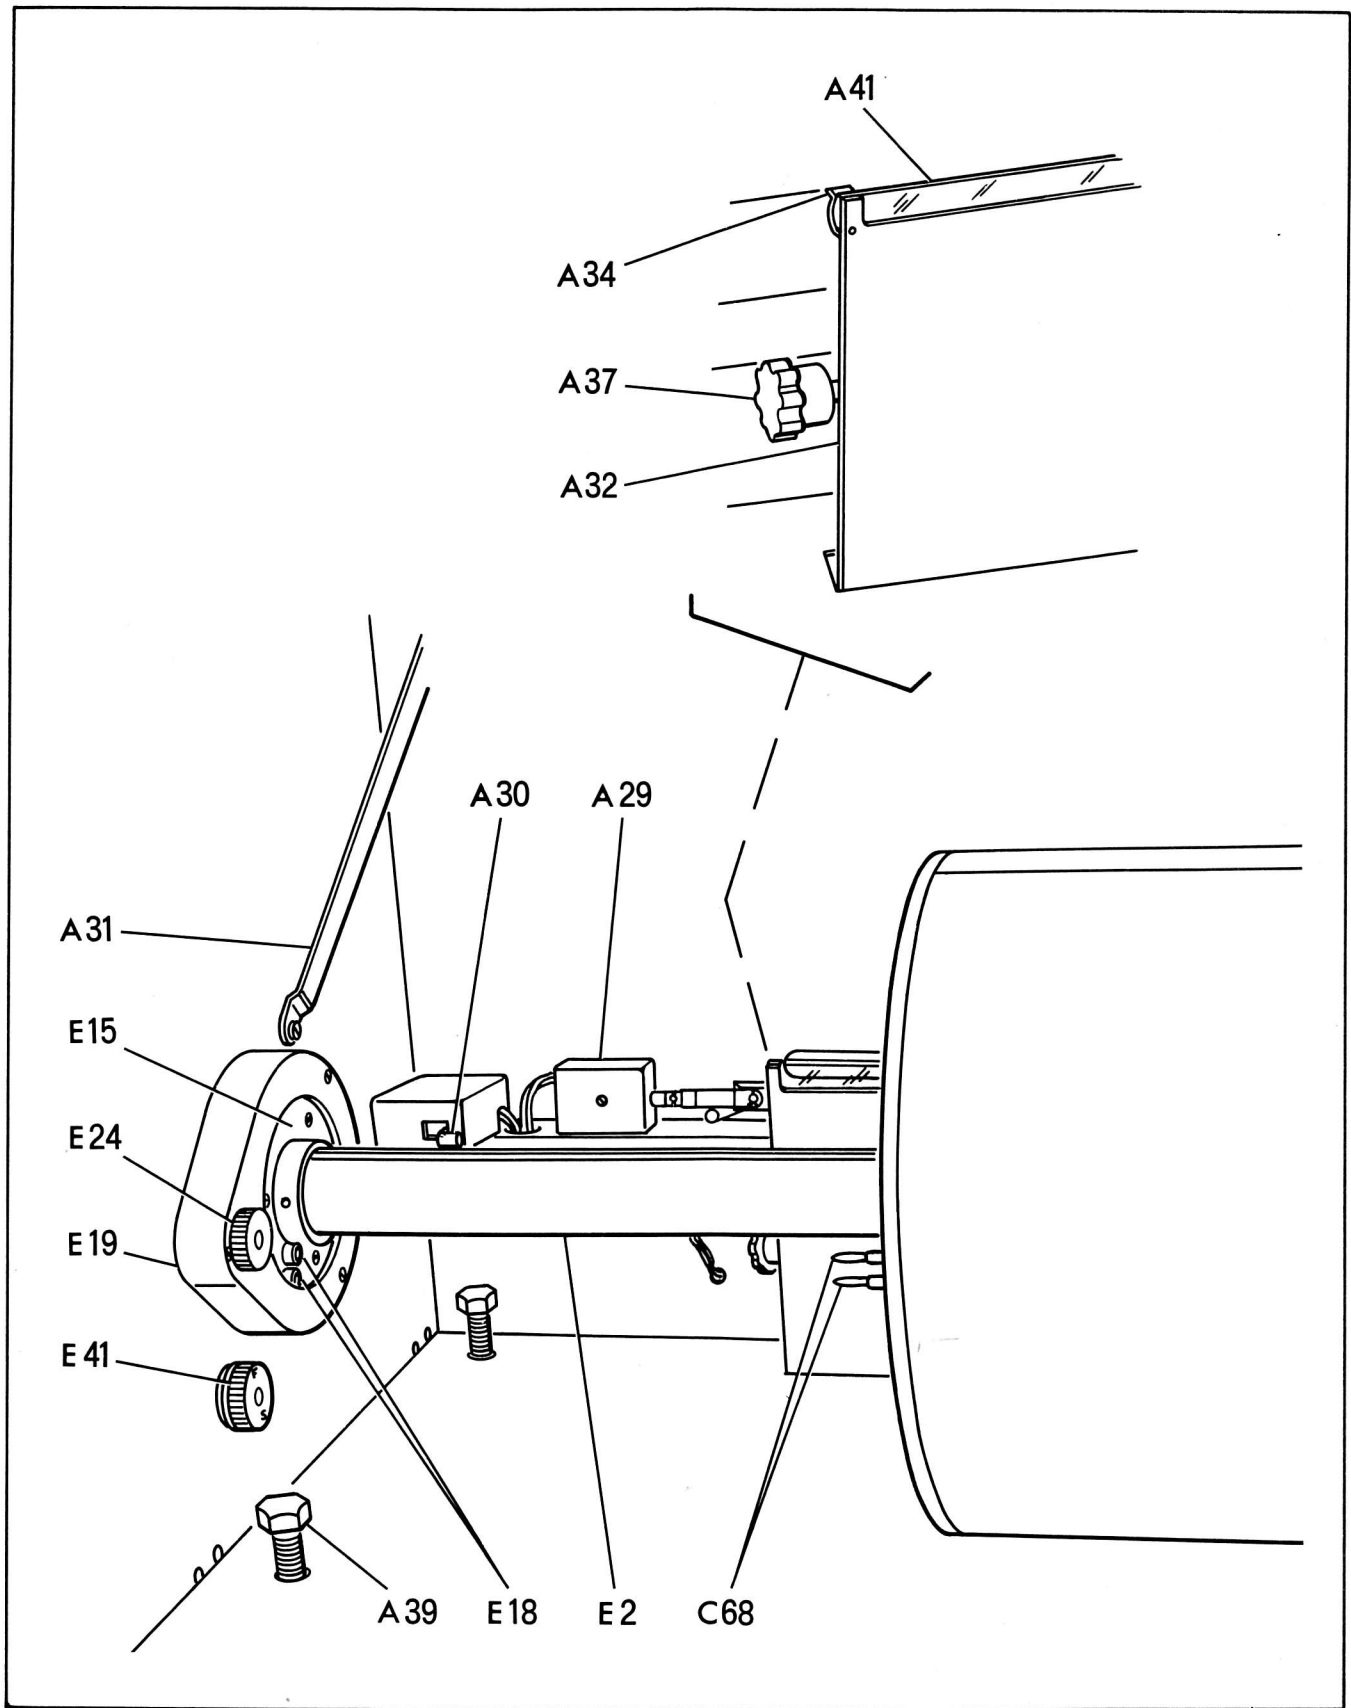

FIGURE 3
closer or farther away as required. After the sharpest vertical focus is accomplished, place the cylindrical lens (A41, Fig. 3) in the holder (A34) flat side toward the drum and gently press downward until it is against the stops.
18. Lift the translation plunger and move the drum to the left until the contact pins (68, Fig. 3) are felt to lightly engage, release the plunger (D3) before the microswitch lever (A30) is actuated.
22. Drum speeds can be changed by rotating the knob (E41, Fig. 3) which is marked with a S-F indicating slow or fast drum speed, the letter position on top indicating which gearing is engaged. Standard drum speeds are 30 and 60 mm/minute.